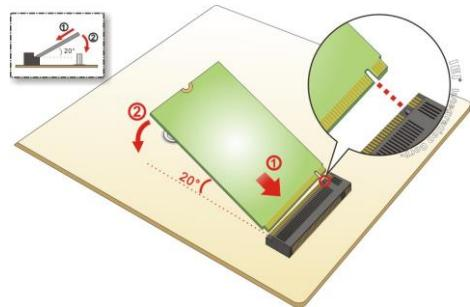

Figure 3-2: Inserting the M.2 Module into the Slot at an Angle
Step 3: Line up the notch on the module with the notch on the slot. Slide the M.2 module into the socket at an angle of about 20° (Figure 3-2).